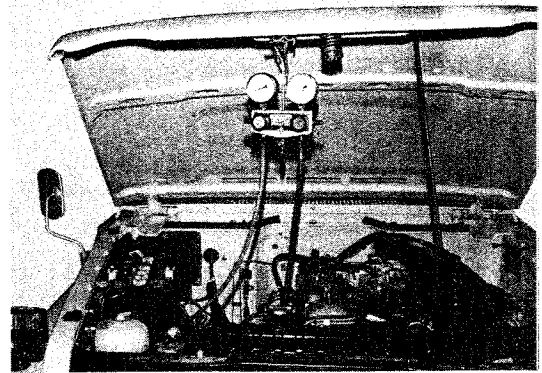

Fig. 50
- 1) After closing both hand valves ("LO" and "HI") on the refrigerant charging gauge, install it in such a manner to connect red charging hose (discharge side) to the discharge service valve of discharge tube (FJ55L model) or compressor (FJ55 model) and yellow charging hose (suction side) to the suction service valve of compressor. See Fig. 50.